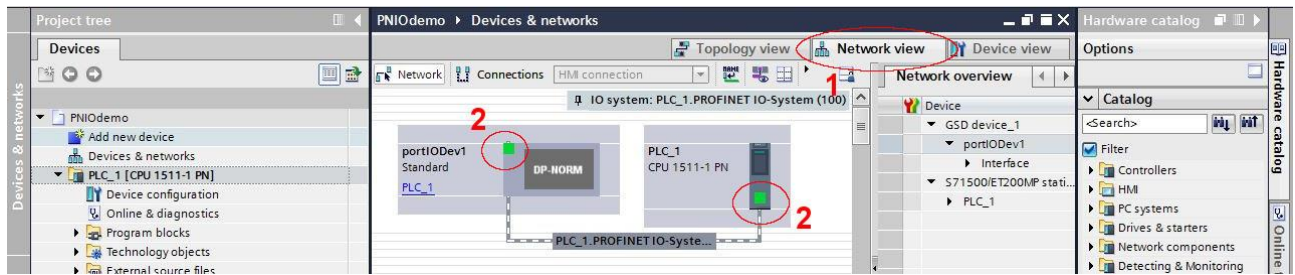

Figure 4-4: Connect the devices
7. Connect the devices (Figure 4-4):